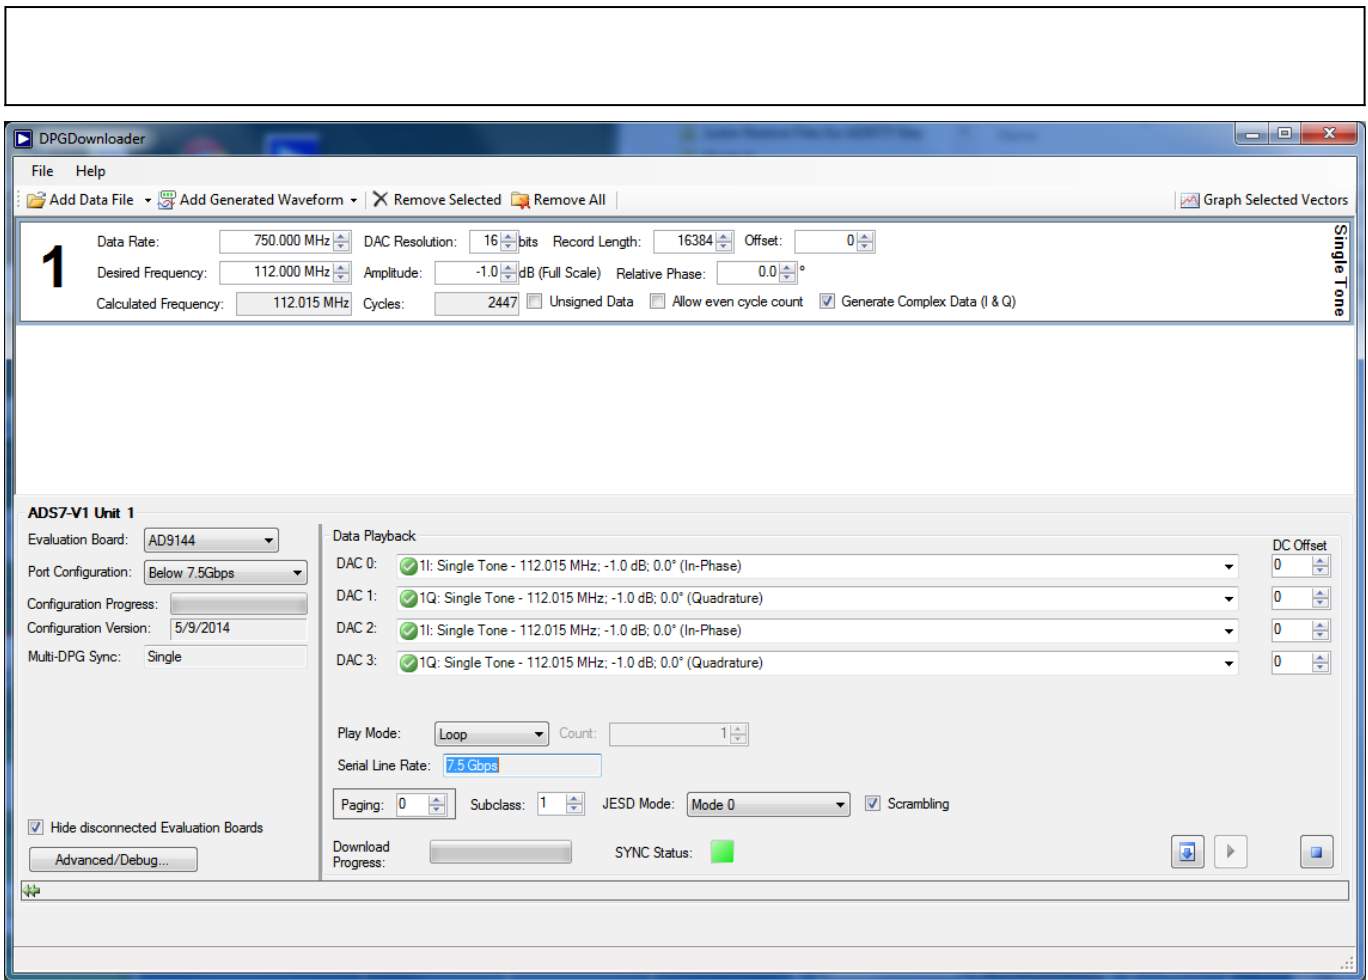

Figure 6. AD9144-FMC-EBZ Fully Configured DPG Downloader Display
6. Populate the data playback selections as shown in Figure 6.